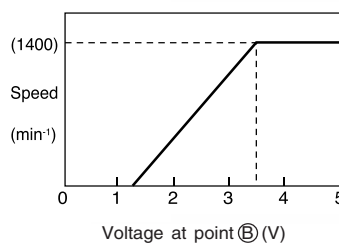

Fig. 7-3
- The pulse is converted into the analog voltage by the R751 and C751 and applied to the fan motor as the speed command voltage. Fig. 7-3 shows the relation between the voltage at the point B and the speed. (Some differences will occur due to the condition of the unit.)